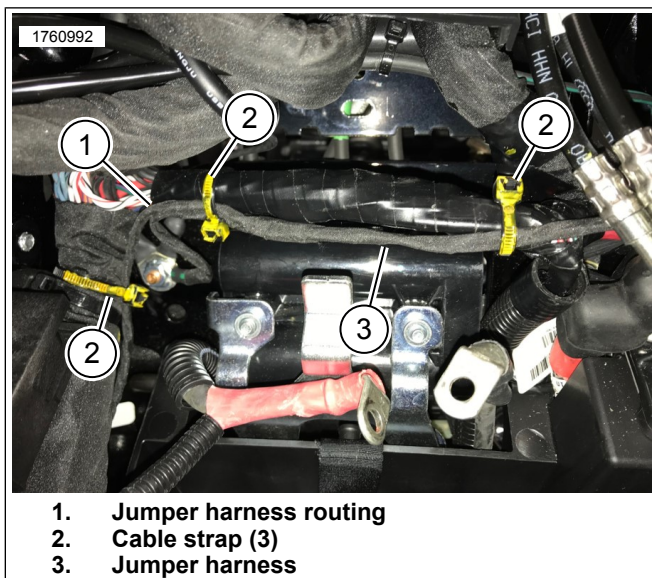
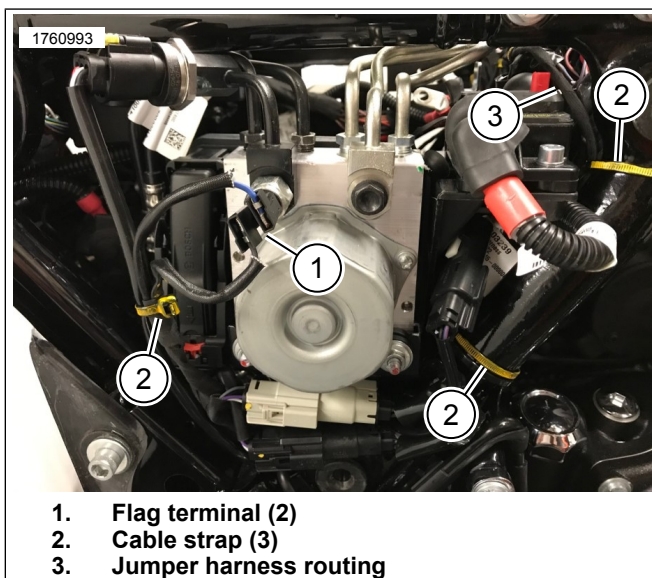

Figure 4. Jumper Harness Routing
Figure 5. Brake Switch
5. See Figure 4. Route and install jumper ring terminal to left side ground stud.
- a. Using cable strap (2) secure jumper harness (3) to main harness.
6. Route jumper harness (3) behind EHCUC assembly and secure using cable straps (2).
7. See Figure 5. Install flag terminals (1) to **new** brake switch.